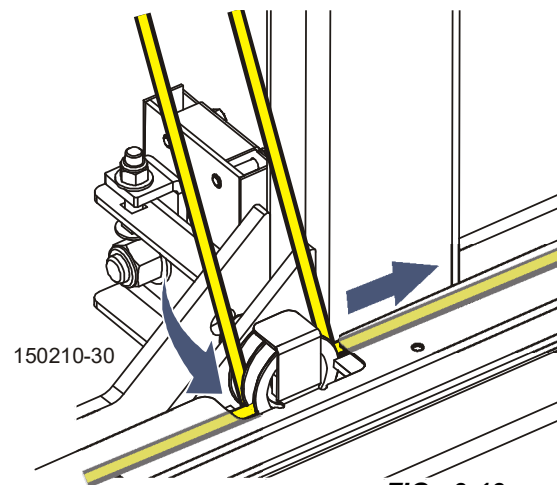

FIG. 3-13
10. Route the feed rope around the inner groove of the lower feed pulley. See FIG. 3-13.